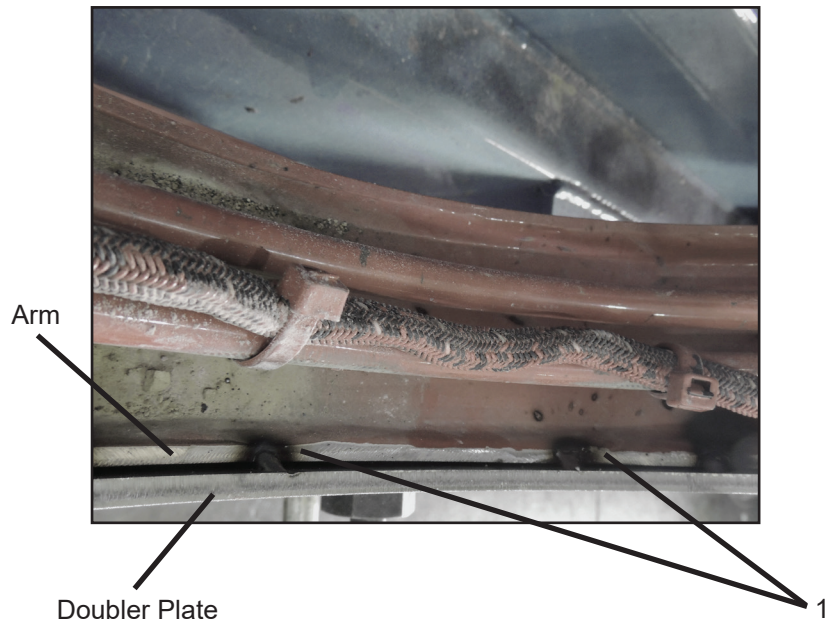

Figure 8
12. Once the proper overlap is achieved, tack weld (Figure 8, Item 1) to the inside overlapping edge of the doubler plate to the arm. (Figure 8, looking rearward and down into the inside curve of the street side arm.) Tack weld the facing edge of the doubler plate as well (not shown). Apply approximately 1/4" welds.